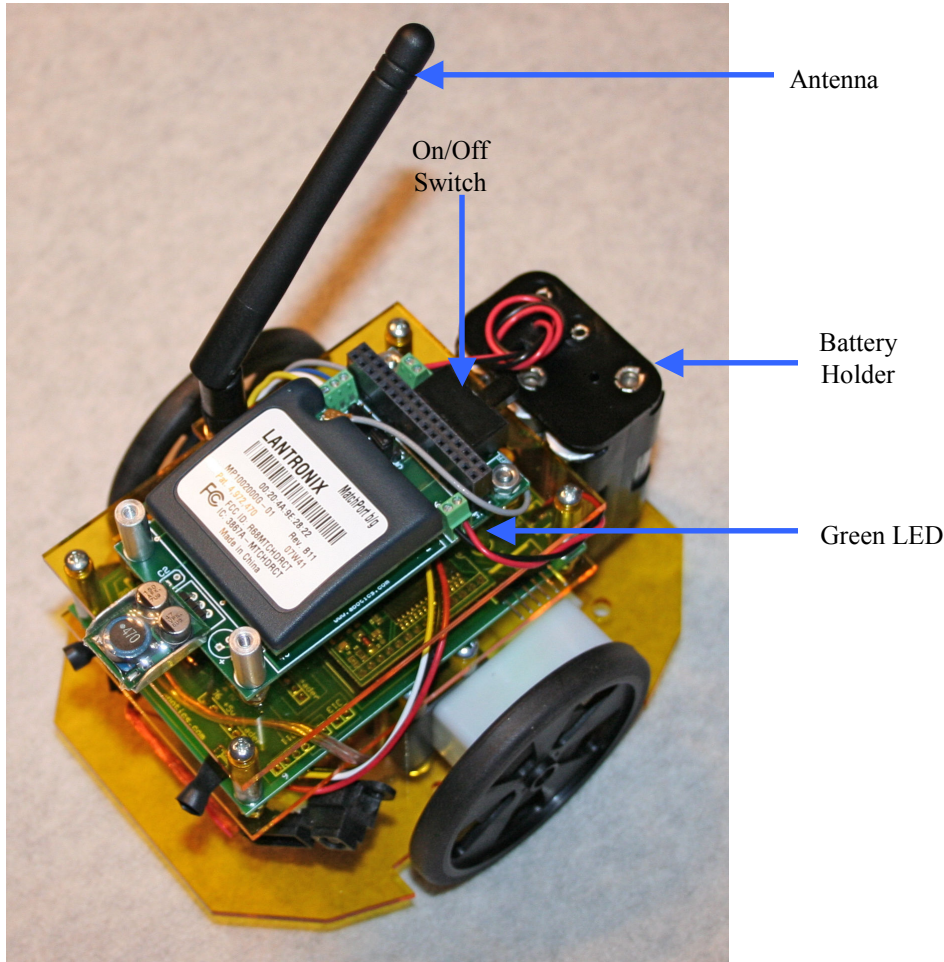

Figure 1. OPEN-ROBOT.
In figure 1 you can see the robot's on/off switch and the (6)-AA battery holder. Before we get started, remove the battery holder by unsnapping it from the robot's base plate. Firmly hold the robot with one hand while pulling the battery holder. Now load (6)-AA batteries into the holder while observing the proper insertion orientation. The negative (-) end of the each battery must be inserted such that it makes contact with the corresponding spring on the holder. ***Failure to do this will damage the robot's controller board.*** We recommend using 15-minute rechargeable AA-batteries, however, you can use regular alkaline batteries. After inserting the batteries snap the battery holder back onto the robot. You will feel the holder lock into place when you press it onto the robot's base plate.